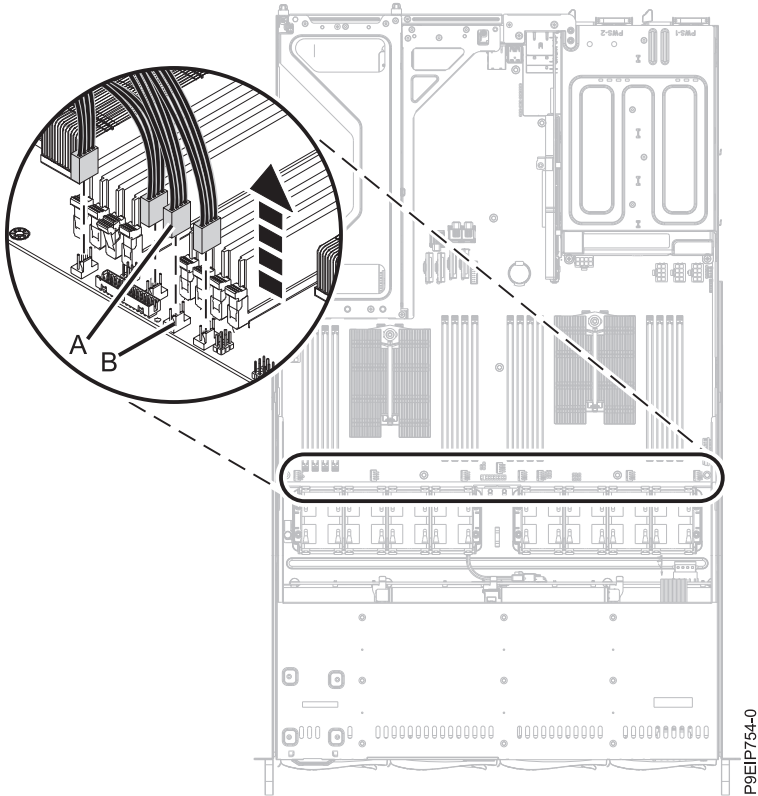

Figure 18. Disconnecting the fan cable
4. To disconnect a fan cable, release the connector clip (**B**) and carefully pull up the connector (**A**) from the system backplane, as shown in Figure 18 on page 20. Do not pull on the wires. Feed the cable through the fan holder.